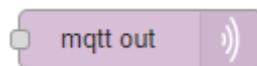
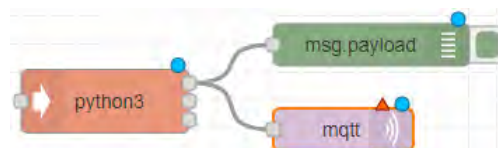

Figure 3.4: MQTT out node.
Figure 3.5: Node-RED setup.
9. Drag the **mqtt out** node (see Figure 3.4) to the workspace. Then, connect the **daemon** node to the **MQTT** node as in Figure 3.5.